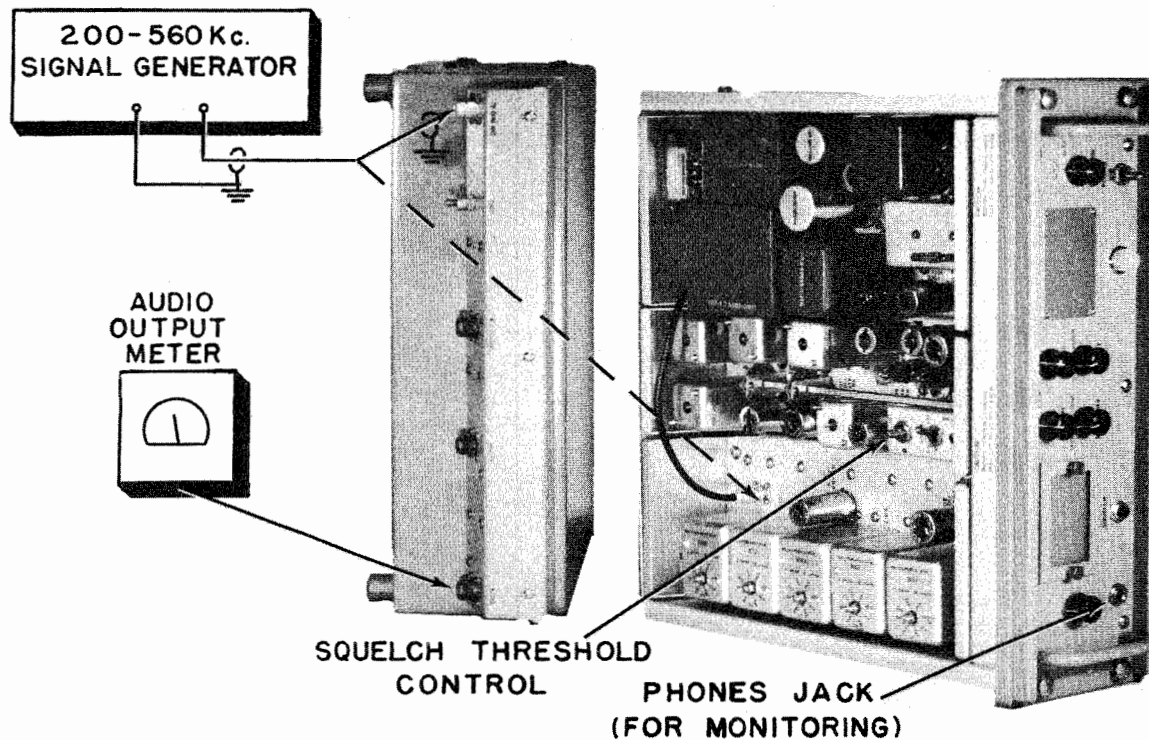

Figure 7-6. Photo—RF Squelch Threshold Adjustment Set-up
(4) Align RF stages. (See Fig. 7-6, Table 7-5.)
(1) Leave all receiver controls as previously adjusted, during the IF amplifier alignment. Make certain the RF band switch is on the proper band, i.e. I or II.
(2) Each time the channel frequency is changed, the RF stages must be re-aligned, as outlined below.
(3) Connect the receiver, RF frequency signal generator, and audio output meter as indicated in figure 7-6 and proceed with the alignment as outlined in table 7-5.
(4) The 200-560 Kc signal generator output should be 30% modulated at 400 cycles, and can be connected directly to the RF chassis receptacle (J102) or to the rear filter assembly ANTENNA input connection (J501).
(5) Make certain the SELECTIVITY switch is in the SHARP position.
(6) The RF alignment procedure given in table 7-5, namely of detuning, peaking and repeaking, is necessary to assure that the receiver will have a symmetrical bandpass, proper spurious, image, selectivity and cross-modulation characteristics, particularly at the lower frequencies of its 200-560 Kc range.
(7) It will be noticed that a dip in the audio output is possible when Z104 is tuned to the injection frequency
j. SQUELCH THRESHOLD ADJUSTMENT. The SQUELCH control (R217), located on the IF chassis assembly, is operative only when the RECEPTION switch (S301) is in the A2-A3 position. The receiver may be adjusted to any point of squelch opening desired, from a completely unsquelched condition to a point where a signal of over 100 microvolts is required to open the squelch. In SECTION 3, para. 4. a. (14), a method of setting this control for the most sensitive point is described. Should circumstances require that the squelch open at some definite signal strength, a signal generator with its output accurately calibrated in microvolts is required, and the following procedure should be followed. (See Fig. 7-6.)